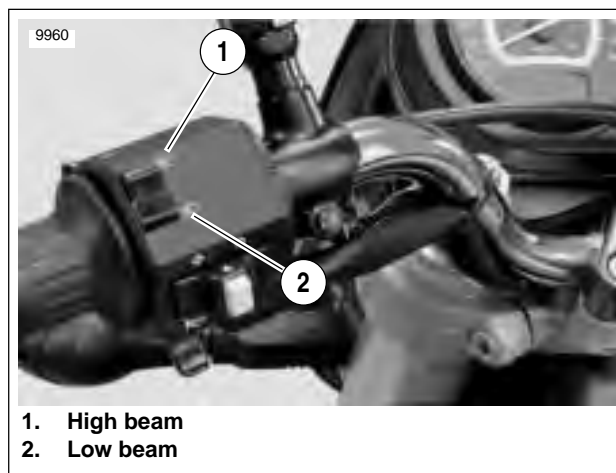

Figure 1-54. Headlamp Switch
- a. See Figure 1-54. Turn ignition switch to IGN. Set handlebar headlamp switch to LOW beam position.
- a. See Figure 1-54. Set handlebar headlamp switch to HIGH beam position.